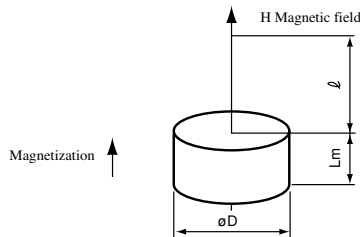
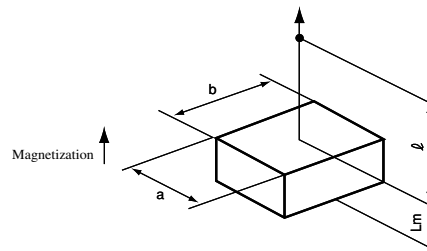

Fig. 31 Cylindrical Magnets
Fig. 33 Square Magnets
In this case, substitute dimensions shown in Fig. 31 and $2\pi I = \frac{Br}{2}$ and $\gamma_0 = \frac{D}{2}$ into equation (4). Plus adding these to the sum of magnetic fields generated by magnetic poles of the front and rear circle. Therefore magnetic field will be the following equation:
In case of facing magnets shown in Fig. 31, magnetic field on their central point will be twice the equation (5).
By applying dimensions shown in Fig. 33 (angle is radian), the following equation is established:
(Refer to Fig. 31 and Fig. 33. for dimensions)